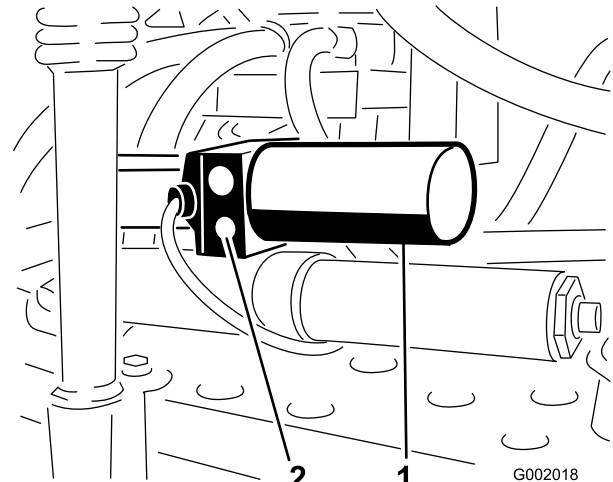

Figure 52
1. Locate the manual relief valve on the actuator for each boom. The manual relief valve is the smaller valve and is only on one side of the actuator body (Figure 52).